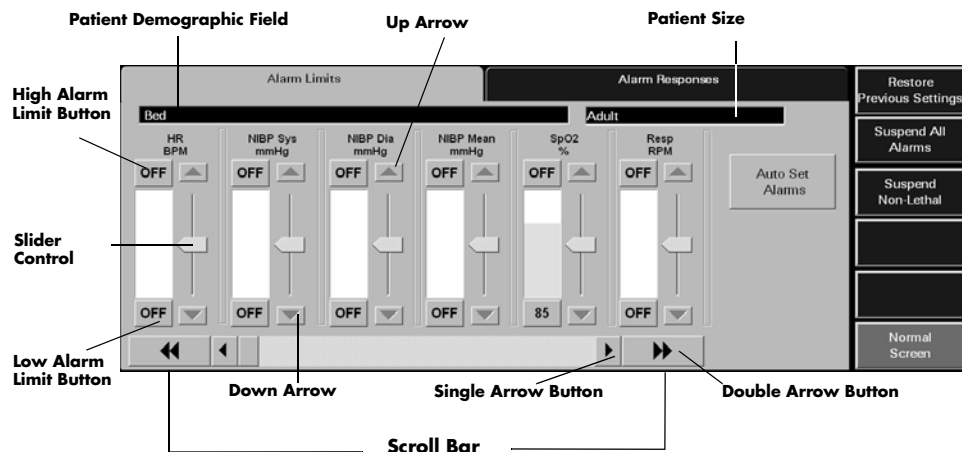

FIGURE 6-2 Alarm Limits Tab
3. The **Alarm Limits** (shown in FIGURE 6-2) and the **Alarm Responses** (shown in FIGURE 6-6) tabs are shown after the correct password is entered. For additional information about alarm limits and alarm responses, refer to Alarm Limits Tab (Patient) on page 6-4 and Alarm Responses Tab (Patient) on page 6-12.
The patient **Alarm Limits** tab (shown in FIGURE 6-2) adjusts patient alarm limit settings. The alarm limits available will change according to the type of monitoring device assigned to the selected patient tile. The fields discussed in this section may not apply to all users. For additional information regarding alarm limit settings, refer to Alarms and Events on page 13-1.